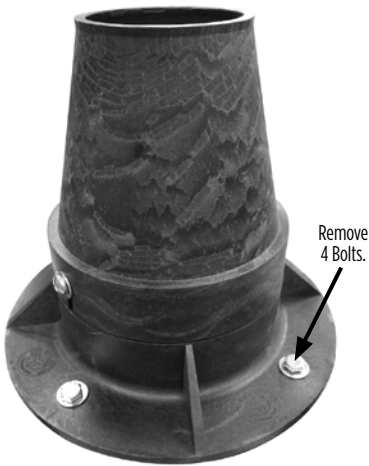

Figure 4
- b) Remove the four indicated bolts that secure the nozzle plate to the motor mount. Clean and store those components (Figure 4).
Step 5 Inspect, clean, and remove any build-up in **Aeration Pump Head** (Figures 4 and 5).